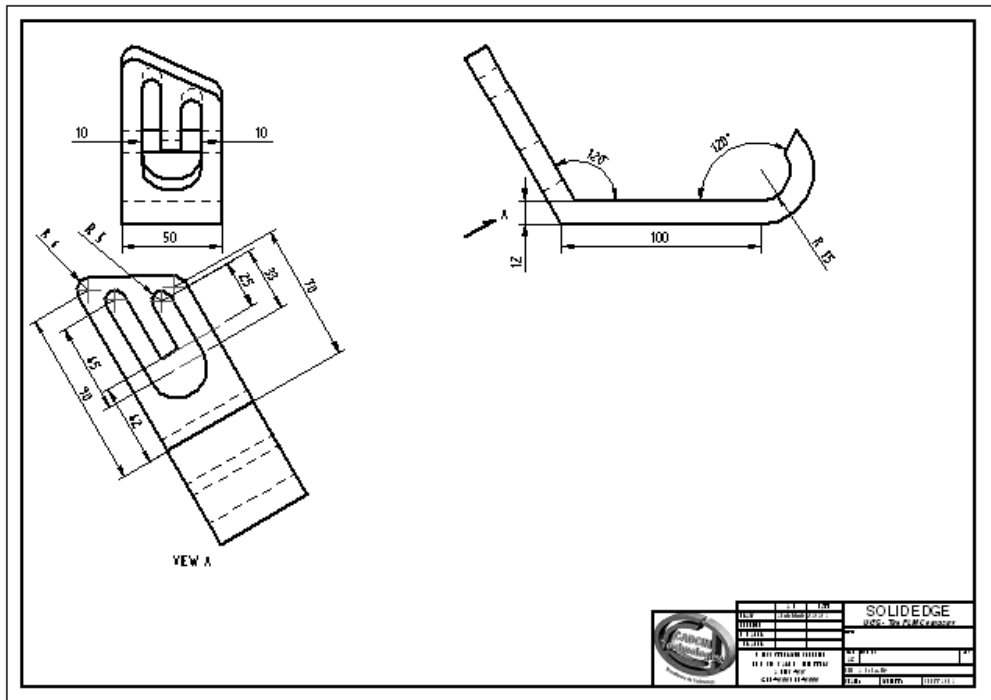

Figure 12-45 Drawing sheet after dimensioning the views
- Create the remaining dimensions that are not generated, refer to Figure 12-45.
The drawing sheet after dimensioning the drawing views is shown in Figure 12-45.
- Define the settings for placing the views, refer to Figures 12-45 and 12-46.